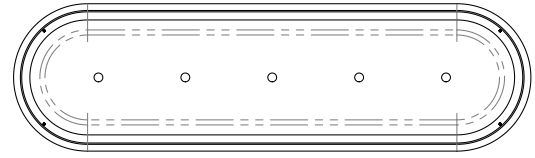

Fig. 3
*The GFRc base will have existing holes (fig. 3) for drainage and should not be used for anchoring.*